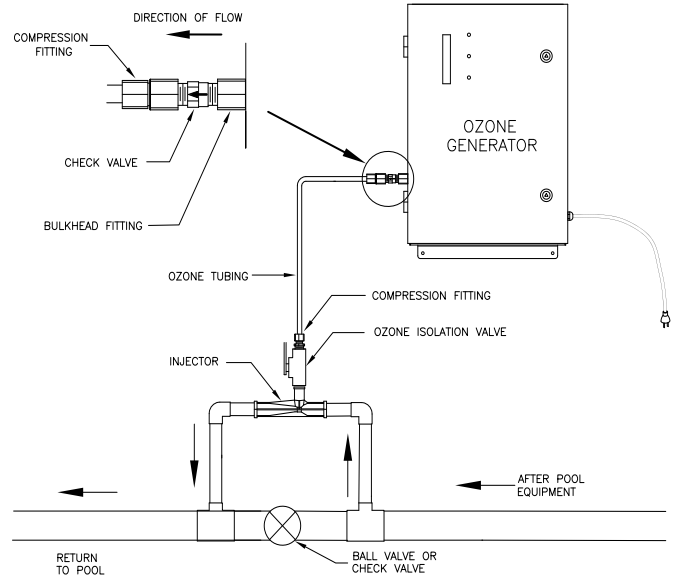

Figure 2a: with Injector Assembly in Main Line
2. The injector assembly is also equipped with a compression fitting. Connect the other end of ozone tubing to the injector suction port as described in Step 1. **See Figure 2a.**